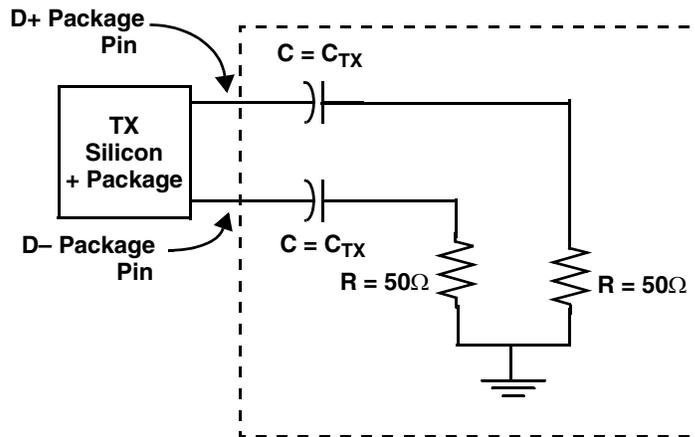

Figure 47. Compliance Test/Measurement Load
- 2 Specified at the measurement point into a timing and voltage test load as shown in Figure 47 and measured over any 250 consecutive Tx UIs.
Transmitter and receiver AC characteristics are measured at the transmitter outputs (SD_TX n and SD_TX_B n) or at the receiver inputs (SD_RX n and SD_RX_B n). The AC timing and voltage parameters must be verified at the measurement point, as specified within 0.2 inches of the package pins, into a test/measurement load shown in Figure 47.